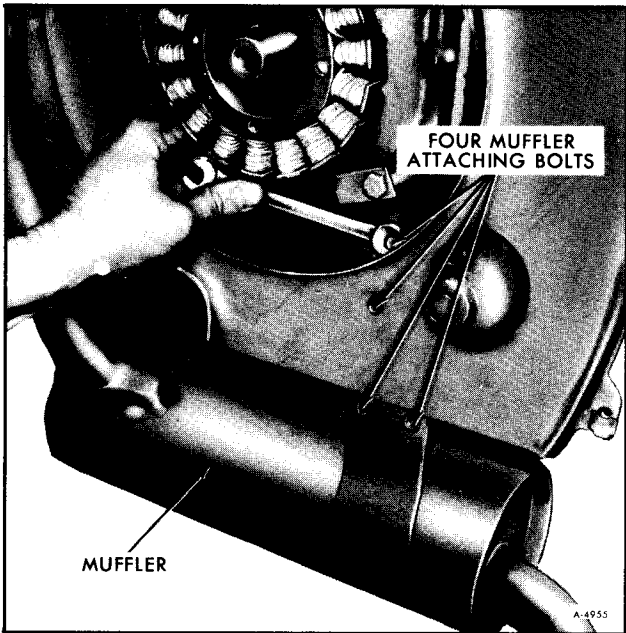

Figure 52—Removing Rear Muffler Mounting Bracket
9. Remove the rear muffler mounting bracket by removing the four attaching bolts (See figure 52).